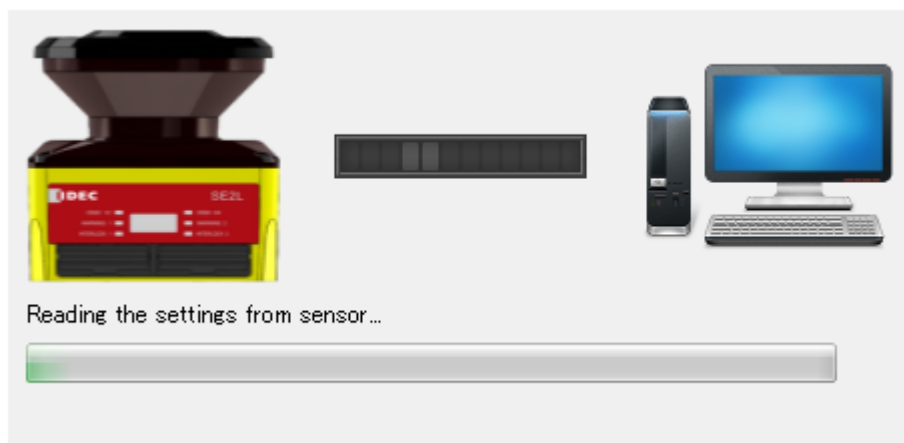

Figure7-54 Reading the configuration of SE2L
- b) Select Load settings on the sub panel window. Progress panel will appear (Figure 7-54) showing the state. If this button is clicked without connecting the SE2L a dialog box will appear to read settings from the SD card (refer to section 7.9.1).